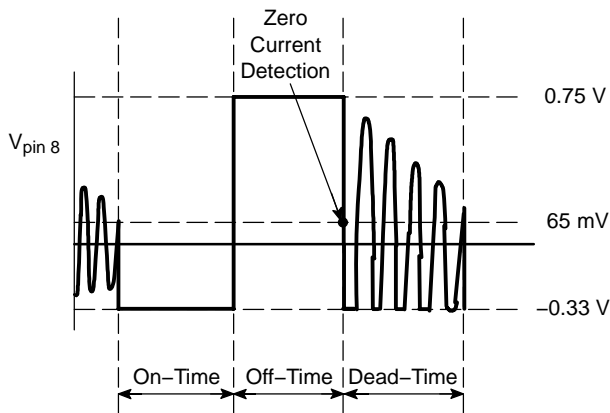
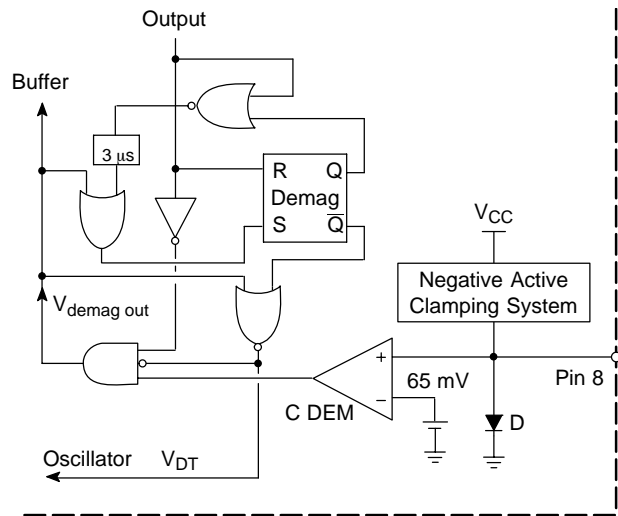

Figure 7. Demagnetization Detection
Figure 8. Demagnetization Block
- equal to zero for the dead-time with generally a ringing (refer to Figure 7).
A latch system is incorporated to keep the demagnetization block output level low as soon as a voltage lower than 65 mV is detected and as long as a new restart is produced (high level on the output (refer to Figure 8)). This process avoids that any ringing on the signal used on the pin 8, disrupts the demagnetization detection (refer to Figure 7). Finally, this method results in a very accurate demagnetization phase detection, and the signal V_{DT} drawn from this block is high only for the dead-time. Therefore, an oscillator re-start and so, a new power switch conduction is only allowed during the dead-time.
The demagnetization detection can be inhibited by connecting pin 8 to the ground but in this case, a timer (about $3 \mu s$) that is incorporated to set the latch when it can not be set by $V_{demagout}$, results in a minimum off-time (refer to Figure 8).